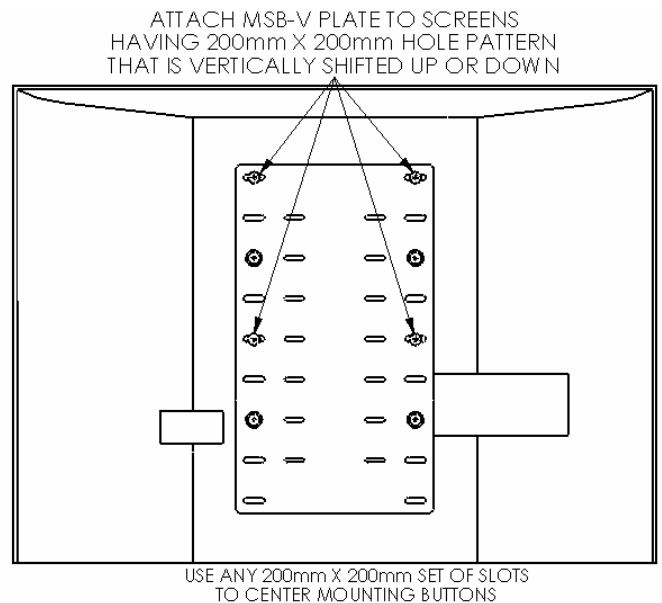

Figure 13. Attach MSP-MSBTW1 to Display with Vertically Shifted Hole Pattern
- If 200mm x 200mm hole pattern is shifted high on the screen (e.g., Samsung LNR-Series), attach the MSP-MSBTW1 (10) vertically with four M6 screws (Bag C) as shown in Figure 13.